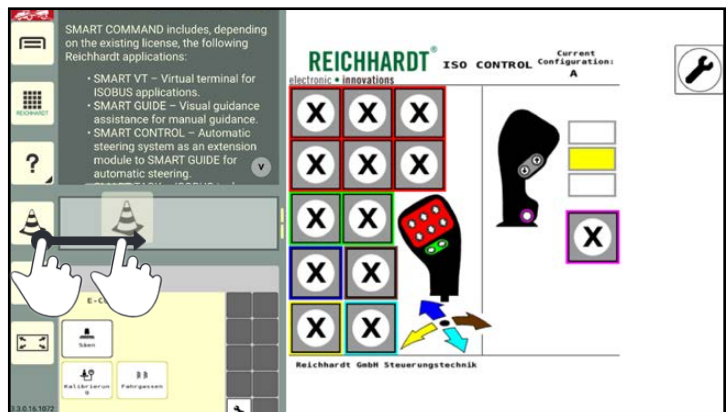

Fig. 81: Positioning the application in the small window
4. Wait until a small, empty window stands out (see Fig. 81).